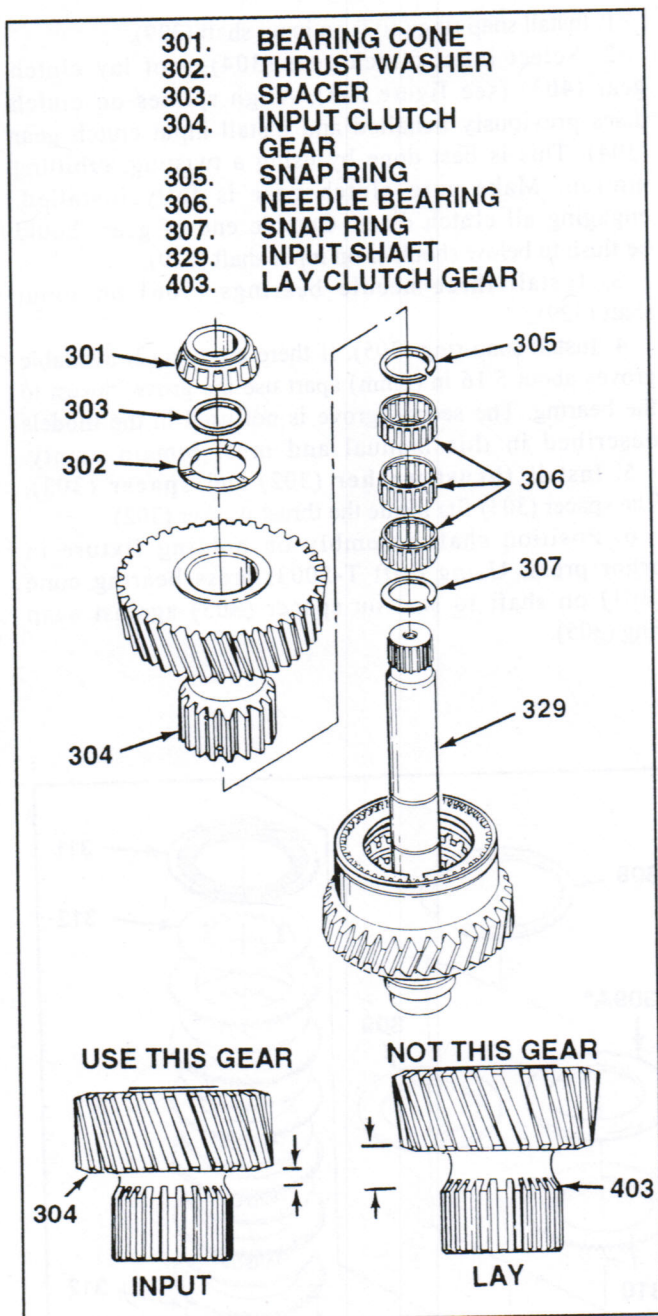

Figure 5-8. Input Clutch Gear and Bearings
5-11. ASSEMBLY OF CLUTCH GEAR AND BEARINGS. With shaft assembly in holding fixture as described in paragraph 5-9, proceed as follows (see figure 5-8):
1. Install snap ring (307) on input shaft (329).
2. Select input clutch gear (304)—not lay clutch gear (403) (see figure 5-8). Align splines on clutch discs previously installed and install input clutch gear (304). This is best done by using a twisting, orbiting motion. Make sure clutch gear is fully installed, engaging all clutch discs. Outside end of gear should be flush to below shoulder on input shaft (329).
3. Install three needle bearings (306) on input shaft (329).
4. Install snap ring (305). If there are two (2) available grooves about 5/16 in (8mm) apart use the groove closest to the bearing. The second groove is not used in the models described in this manual and must remain empty.
5. Install **thrust washer** (302) and **spacer** (303). The spacer (303) fits inside the thrust washer (302).
6. Position shaft assembly on holding fixture in arbor press. Using drift T-5003, press bearing cone (301) on shaft to seat on spacer (303) against snap ring (305).